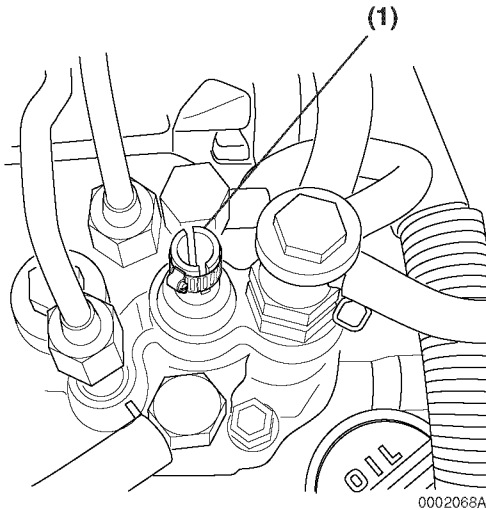
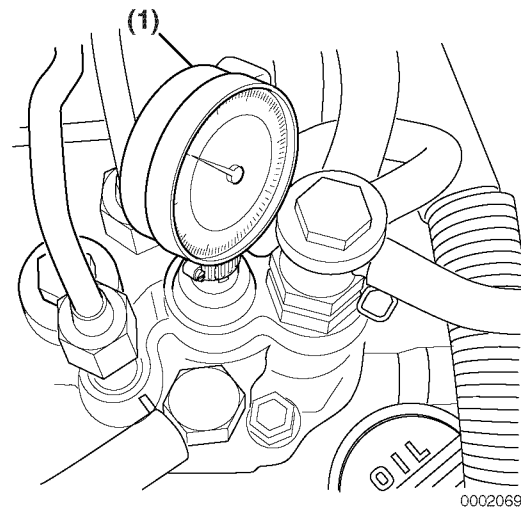

Figure 7-37
Figure 7-38
Note: Use the Yanmar part no. 158090-51831 M14 adapter for the MP2 fuel injection pumps (TNV82 - 88 model engines) or Yanmar part no. 158090-51841 for the M16 adapter used on the MP4 fuel injection pumps (TNV94 - 106 model engines) and Yanmar part no. 23000-013000 plunger adapter clamp (**Figure 7-37, (1)**).
5. Install a dial indicator (**Figure 7-38, (1)**), Mitutoyo No. 2050SB or equivalent, with a 30 mm extension, Yanmar part no. 158090-51870 or Mitutoyo No. 303613, into the adapter. Secure with the Yanmar part no. 23000-013000 plunger adapter clamp (**Figure 7-37, (1)**) at approximately the mid-point of its travel.